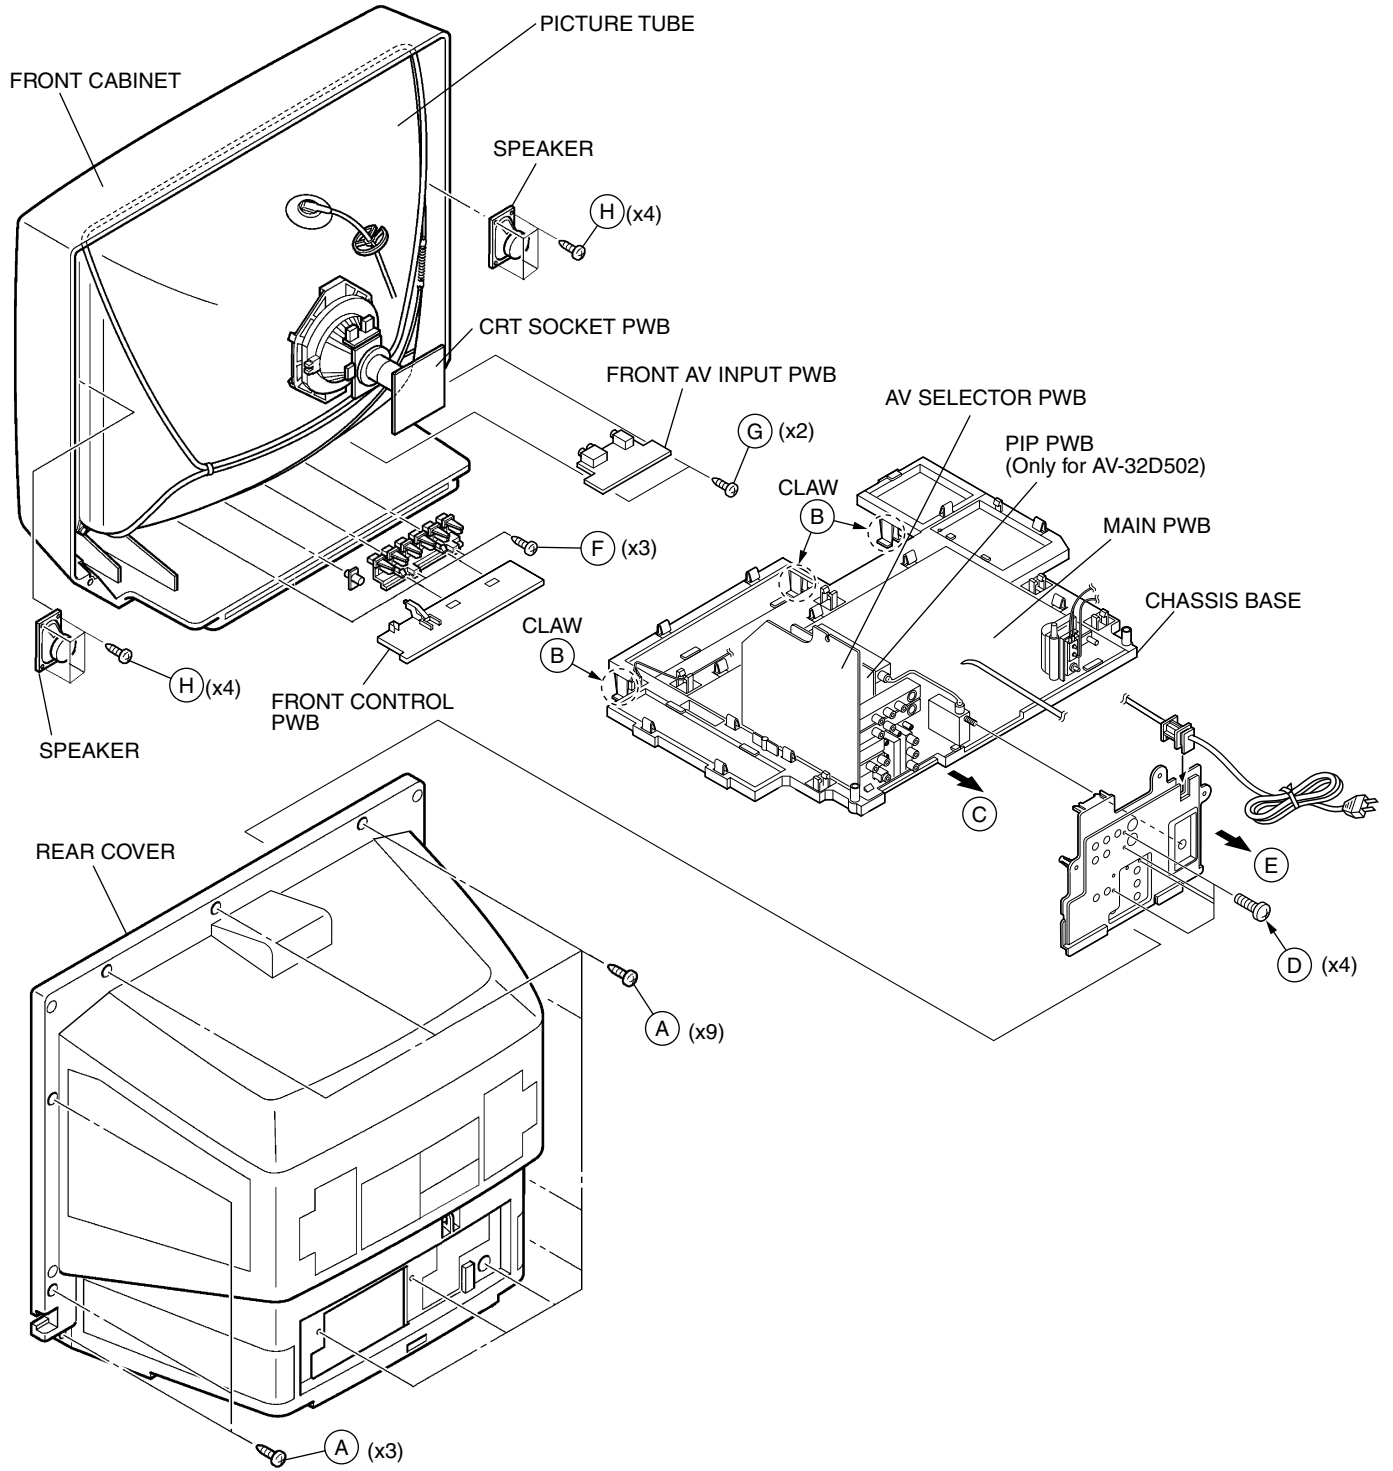
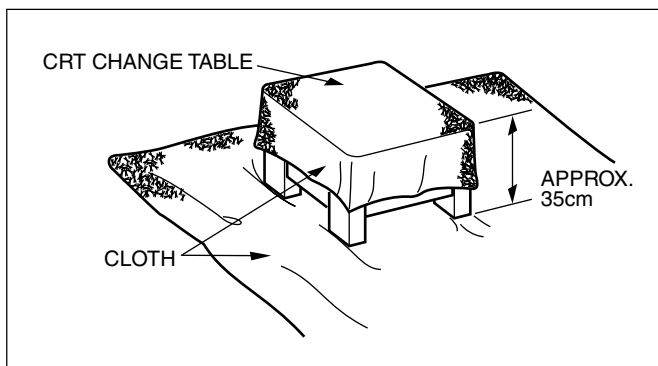

Fig.1
Fig. 2
2. Remove the 12 screws marked (A) as shown in Fig.1.
1. Slightly raise the both sides of the chassis by hand and remove the 3 claws marked (B) under the chassis from the front cabinet as shown in Fig.1.
2. Withdraw the chassis backward along the rail in the arrow direction marked (C) as shown in Fig.1.
1. Remove the 4 screws marked (D) as shown in Fig.1.
2. When you pull out the TERMINAL BOARD in the direction of arrow marked (E) as shown in Fig.1, it can be removed.
1. Remove the 3 screws marked (F) and the 2 screws marked (G) as shown in Fig.1.
1. Remove the 4 screws marked (H) as shown in Fig.1.
- 1. Putting the CRT change table on soft cloth, the CRT change table should also be covered with such soft cloth (shown in Fig. 2).
| <p>(4) System constant check and setting</p> <ol style="list-style-type: none"> 1) Press SLEEP TIMER key and, while the indication of "SLEEP TIMER 0 MIN." is being displayed, press DISPLAY key and VIDEO STATUS key on the remote control unit simultaneously. 2) The SERVICE MENU screen of Fig.1 is displayed. 3) While the SERVICE MENU is displayed, again simultaneously press the DISPLAY and VIDEO STATUS keys to display the Fig.2 SYSTEM CONSTANT screen. 4) Refer to the SYSTEM CONSTANT table and check the setting items. Where these differ, select the setting item with the MENU UP/DOWN key and adjust the setting with the MENU LEFT/RIGHT keys. (The letters of the selected item are displayed in yellow.) 5) After adjusting, release the MENU LEFT/RIGHT key to store the setting value. 6) Press the EXIT key twice to return the normal screen. | <div data-bbox="1036 814 1453 1123" style="border: 1px solid black; padding: 5px;"> <p style="text-align: center;">SERVICE MENU</p> <table border="1" style="width: 100%; border-collapse: collapse;"> <tr> <td style="padding: 2px;">PICTURE</td> <td style="padding: 2px;">SOUND</td> </tr> <tr> <td style="padding: 2px;">THEATER</td> <td style="padding: 2px;">OTHERS</td> </tr> <tr> <td style="padding: 2px;">LOW LIGHT</td> <td style="padding: 2px;">HIGH LIGHT</td> </tr> <tr> <td style="padding: 2px;">RF AFC</td> <td style="padding: 2px;">I2C BUS CTRL</td> </tr> </table> <p style="font-size: small;">SELECT BY ▲ ▼ OPERATE BY ◀ ▶ EXIT BY (EXIT)</p> </div> <p style="text-align: center;">[AV-32D202, AV-32D302]</p> <div data-bbox="1036 1180 1453 1488" style="border: 1px solid black; padding: 5px;"> <p style="text-align: center;">SERVICE MENU</p> <table border="1" style="width: 100%; border-collapse: collapse;"> <tr> <td style="padding: 2px;">PICTURE</td> <td style="padding: 2px;">SOUND</td> </tr> <tr> <td style="padding: 2px;">THEATER</td> <td style="padding: 2px;">OTHERS</td> </tr> <tr> <td style="padding: 2px;">PIP</td> <td style="padding: 2px;"></td> </tr> <tr> <td style="padding: 2px;">LOW LIGHT</td> <td style="padding: 2px;">HIGH LIGHT</td> </tr> <tr> <td style="padding: 2px;">RF AFC1</td> <td style="padding: 2px;">RF AFC2</td> </tr> <tr> <td style="padding: 2px;">TU2 VCO</td> <td style="padding: 2px;">I2C BUS CTRL</td> </tr> </table> <p style="font-size: small;">SELECT BY ▲ ▼ OPERATE BY ◀ ▶ EXIT BY (EXIT)</p> </div> <p style="text-align: center;">[AV-32D502]</p> <p style="text-align: center;">Fig.1</p> <div data-bbox="1036 1587 1453 1896" style="border: 1px solid black; padding: 5px;"> <p style="text-align: center;">SYSTEM CONSTANT</p> <table border="1" style="width: 100%; border-collapse: collapse;"> <tr> <td style="padding: 2px;">MODEL</td> <td style="padding: 2px;">: ***-****</td> </tr> <tr> <td style="padding: 2px;">CCD</td> <td style="padding: 2px;">: YES</td> </tr> <tr> <td style="padding: 2px;">V-CHIP</td> <td style="padding: 2px;">: YES</td> </tr> <tr> <td style="padding: 2px;">CAN V-CHIP</td> <td style="padding: 2px;">: YES</td> </tr> <tr> <td colspan="2" style="padding: 2px;">***** **</td> </tr> </table> <p style="font-size: small;">SELECT BY ▲ ▼ OPERATE BY ◀ ▶ EXIT BY (EXIT)</p> </div> <p style="text-align: center;">Fig.2</p> | PICTURE | SOUND | THEATER | OTHERS | LOW LIGHT | HIGH LIGHT | RF AFC | I2C BUS CTRL | PICTURE | SOUND | THEATER | OTHERS | PIP | | LOW LIGHT | HIGH LIGHT | RF AFC1 | RF AFC2 | TU2 VCO | I2C BUS CTRL | MODEL | : ***-**** | CCD | : YES | V-CHIP | : YES | CAN V-CHIP | : YES | ***** ** | |
| <p>(7) SERVICE MENU setting Verify what to set in the SERVICE MENU, and set whatever is necessary.(Fig.1) Refer to the SERVICE ADJUSTMENT for setting.</p> | | | | | | | | | | | | | | | | | | | | | | | | | | | | | | | |